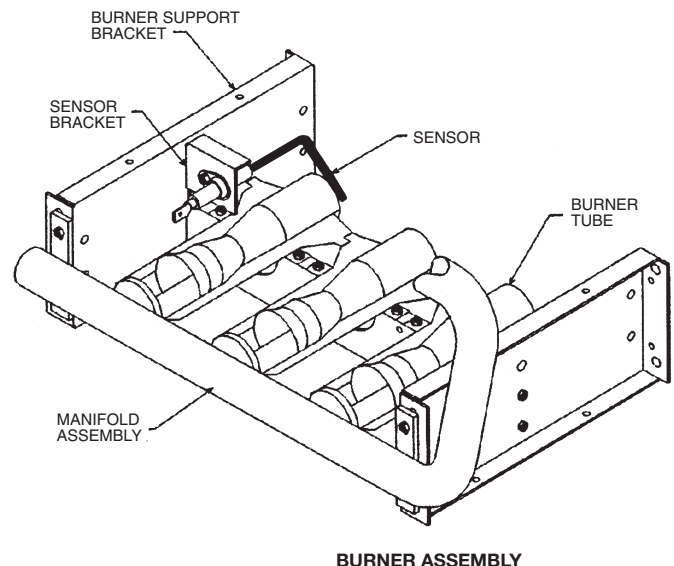

FIGURE 3
5. Insert the sensor (62-23543-01) through the hole in the bracket. Use a 1/4" nut driver to anchor the sensor with one of the sheet metal screws provided. The sensor rod should pass diagonally in front of the burner, as shown. See Figure 3.